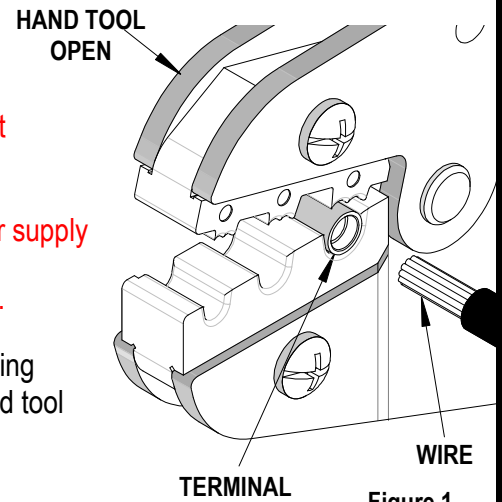

Figure 1
2. Holding the terminal at the contact end, place the terminal in the appropriate nest. See Figure 1.